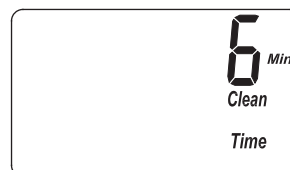

FIG. 28
1. Press and hold the PROGRAM button until the screen in Figure 25 is displayed. Once in this display, press the PROGRAM button three times and the display in Figure 28 is shown.